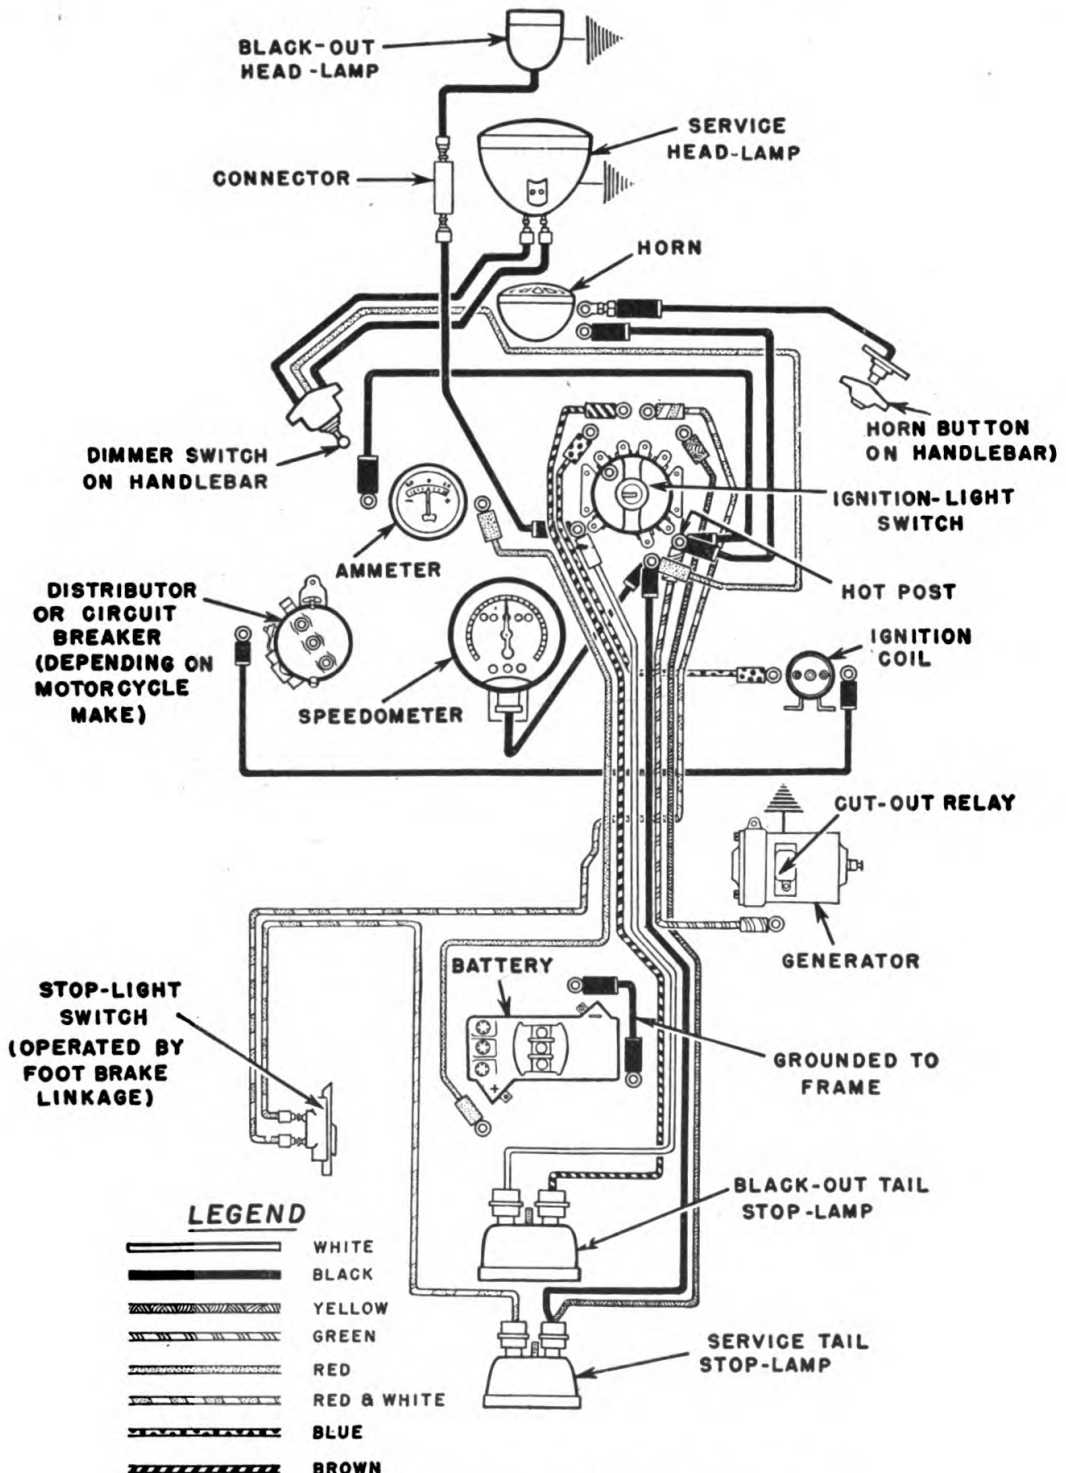

FIGURE 89.—Wiring diagram of military motorcycles.
*a. Electrical circuits.*—(1) When electric energy or current is conducted from a source such as a battery to an electrical unit such as a lamp, and then back to the source, it makes a complete electrical circuit. If the circuit is broken at any point, as by an open switch, a loose connection, or a burned-out filament in a lamp, the electricity ceases to flow in the circuit.
(2) Electricity in the motorcycle system is conducted by wires on the positive or "supply" side of a circuit and returned to the source through the frame on the negative or "grounded" side of the circuit. Switches are provided to complete or break the circuits.
(3) The wiring diagram (fig. 89) illustrates the lay-out of the various electrical circuits on the two makes of military motorcycles used in the Army. Electricity produced by the generator is stored in the battery. From the battery, current is supplied to the ignition circuit, service light circuit, blackout light circuit, horn circuit, and any other units which require electricity in their operation. Connecting wires are insulated to prevent leakage or "shorting" of the circuit and are protected against abrasion or other damage to the wire by the insulation.